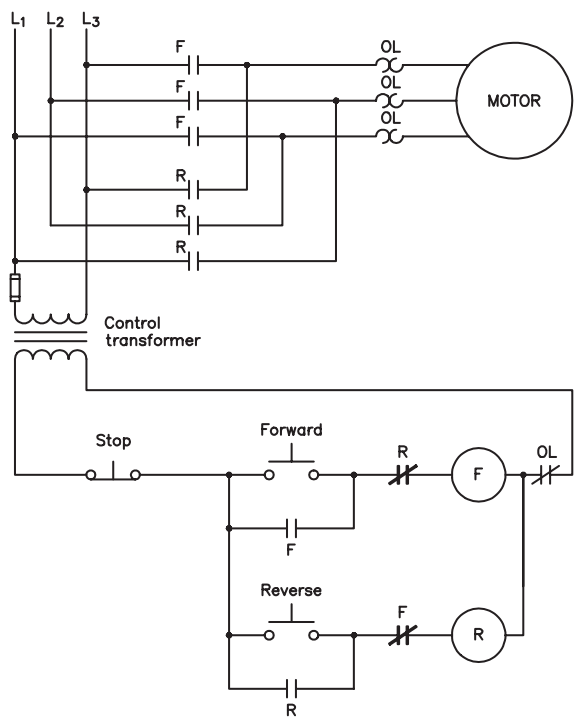
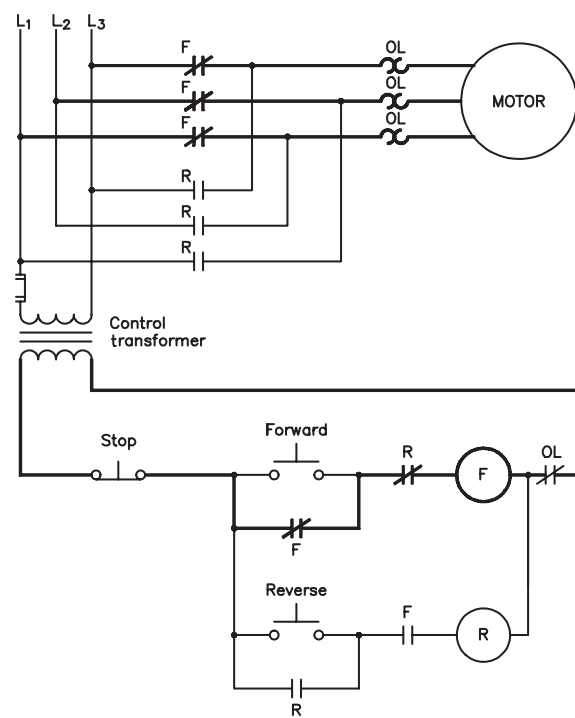
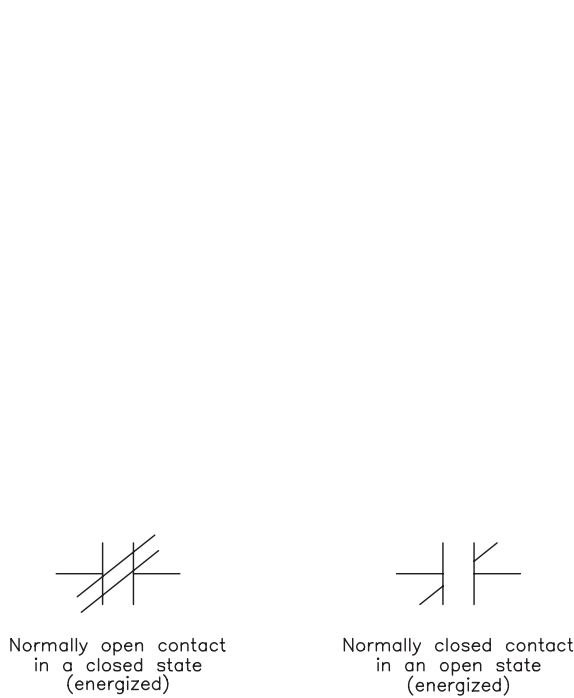
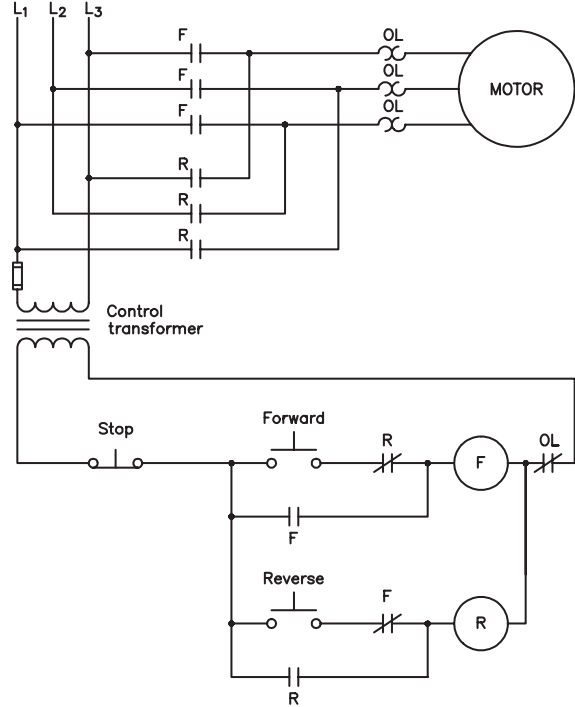

Figure 28-1 Forward-reverse control with interlock.
Figure 28-2 Motor operating in the forward direction.
Figure 28-3 Contacts to illustrate circuit logic.
Figure 28-9 The position of the holding contacts has been changed.
Electrical interlocking is accomplished by connecting the normally closed auxiliary contacts on one contactor in series with the coil of the other contactor (Figure 28-1). Assume that the forward push button is pressed and F coil energizes. This causes all F contacts to change position. The three F load contacts close and connect the motor to the line. The normally open F auxiliary contact closes to maintain the circuit when the forward push button is released, and the normally closed F auxiliary contact connected in series with R coil opens (Figure 28-2). (Note: Figure 28-2 illustrates the circuit as it is when the forward starter has been energized. Schematics of this type are used throughout this laboratory manual to help students understand how relay logic operates. This can lead to confusion, however, because contacts that are connected normally open will be shown closed and normally closed contacts will be shown open. To help avoid confusion, normally open contacts that are closed during the stage the circuit is in at that moment will use double lines to indicate the contact is now closed. Contacts that are normally closed, but open at that stage of circuit operation, will show a line at the edges of the contact, but the contact will be open in the middle, as shown in Figure 28-3.)
3. Referring to the schematic shown in Figure 28-1, how would the circuit operate if the normally closed R contact connected in series with F coil were to be connected normally open?
6. Assume that the circuit shown in Figure 28-1 were to be connected as shown in Figure 28-9. In what way would the operation of the circuit be different, if at all?